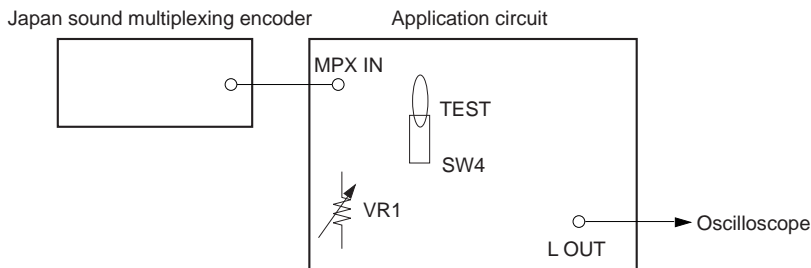

Fig. 2
- 1) Connect as shown in Fig. 2.